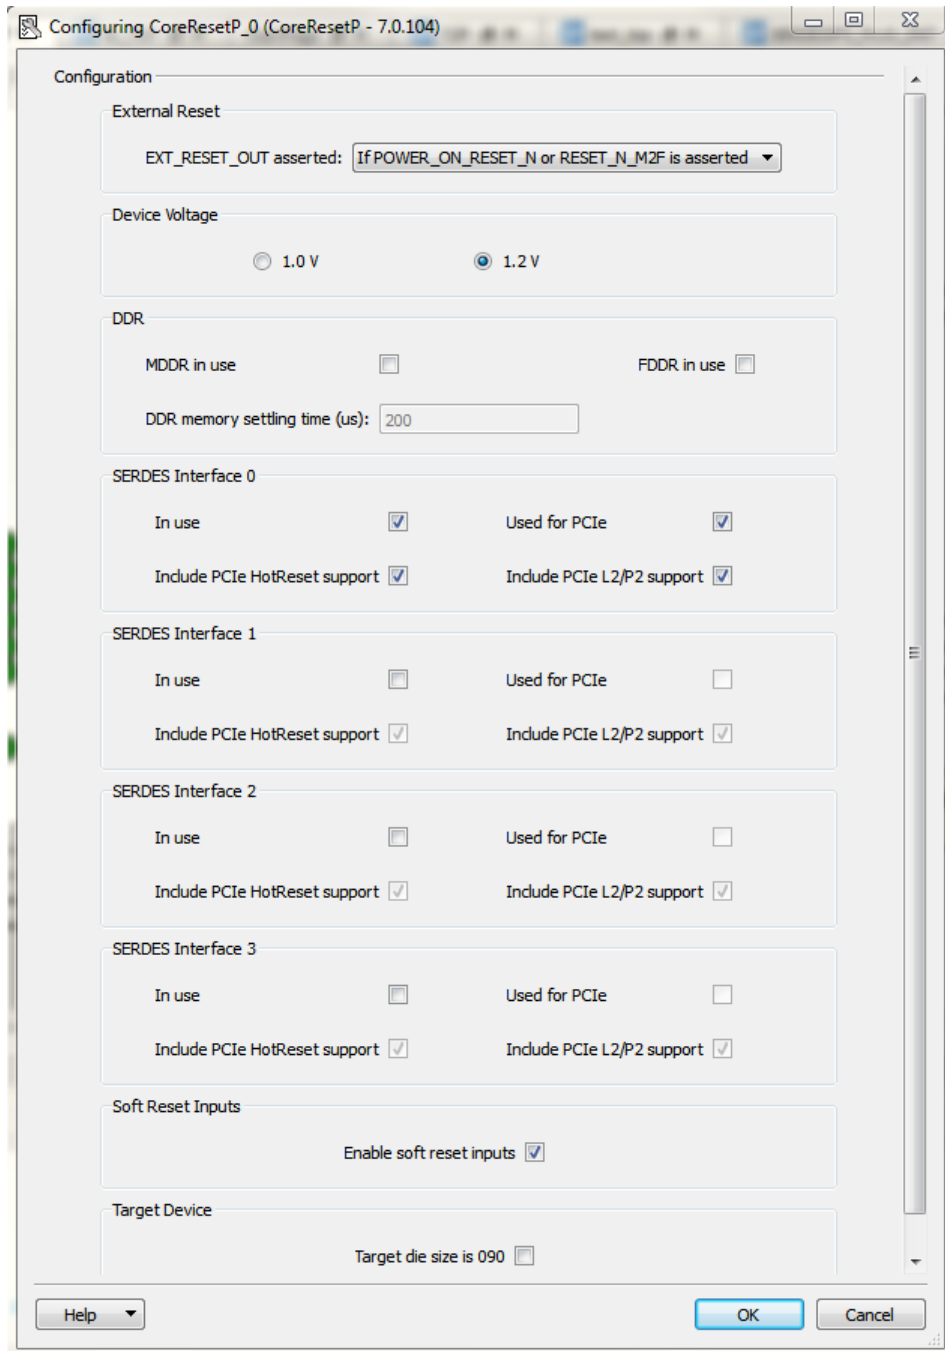

Figure 22. CoreResetP Configurator
2. Double-click the core inside the SmartDesign Canvas to open the Configurator (Figure 22 – CoreResetP Configurator)